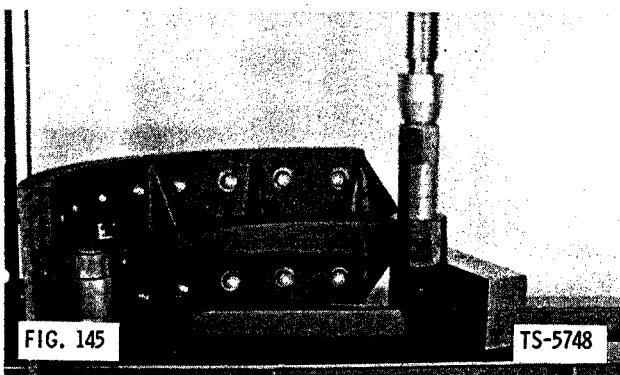

FIG. 145
- Press brake shoe bushings into brake shoe (Fig. 145).